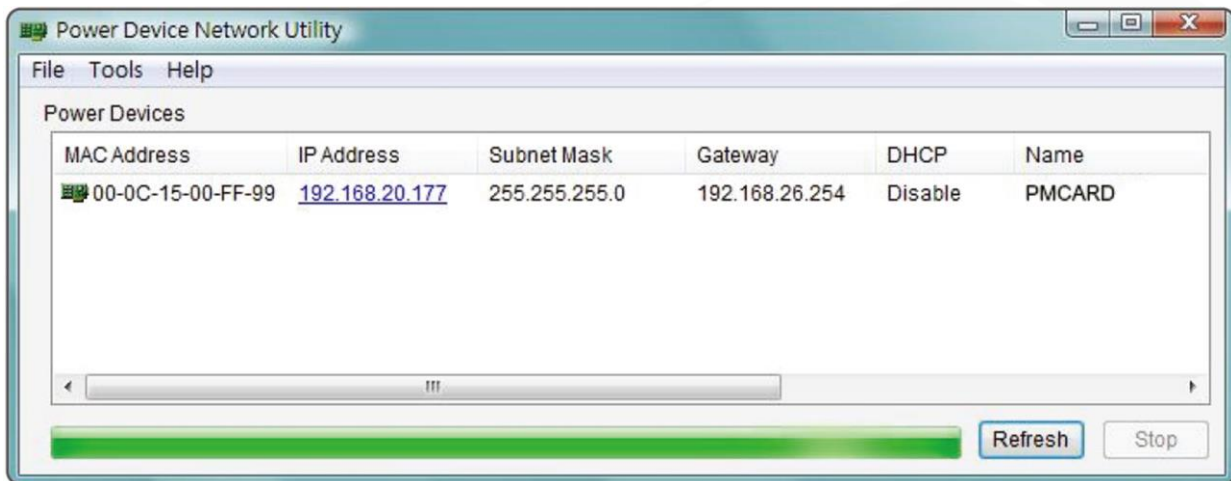

Figure 1. The main window of the "Power Device Network Utility" program.
3. The main window of the Power Device Network Utility program is shown in Figure 1. The configuration tool will display all Management Card devices present on the local network subnet. The "Refresh" button is used to search the local network subnet again.